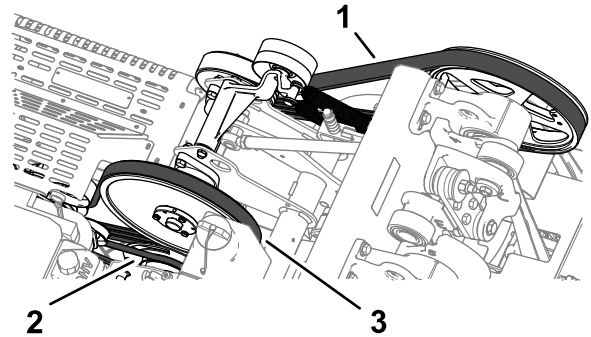

Figure 175
2. Inspect the hydraulic-pump, jackshaft, and crankshaft belts (Figure 175) for damage, wear, excessive cushion cracks, or large embedded debris.